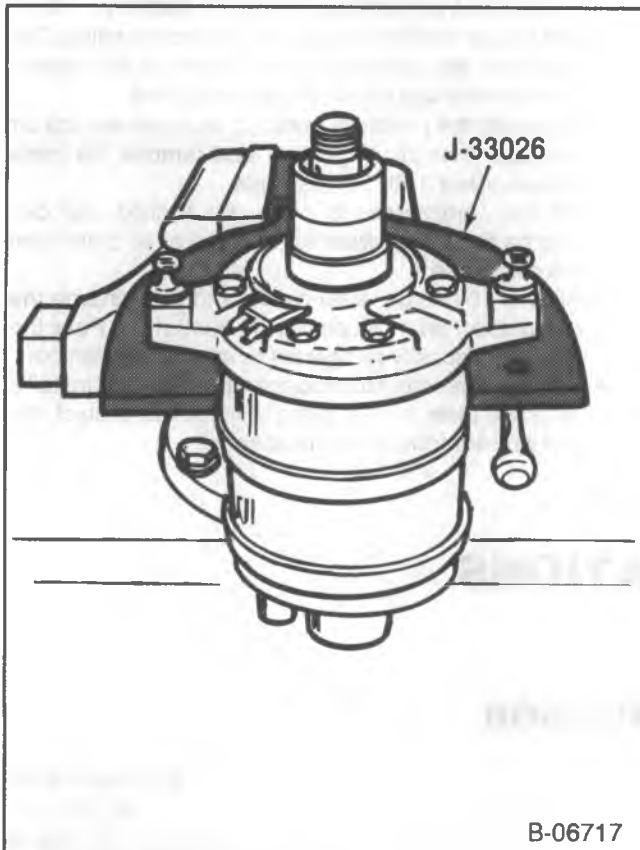

Figure 39 — Installing the Compressor to J 33026
- Front head (11) is now assembled in the "standard" position and may differ 120 degrees either direction. Assemble front head (11) according to location marked before removal.
- Using both hands, press down on front head (11) for installation over the seal (15) at the front of the cylinder (16).
12. Through bolts (7) with new gaskets.
- Thread four of the through bolts (7) into the rear head (28) before removing J 33016 guide pins. Install two remaining through bolts (7) finger tight.
- Mount the compressor on J 33026 (figure 39).